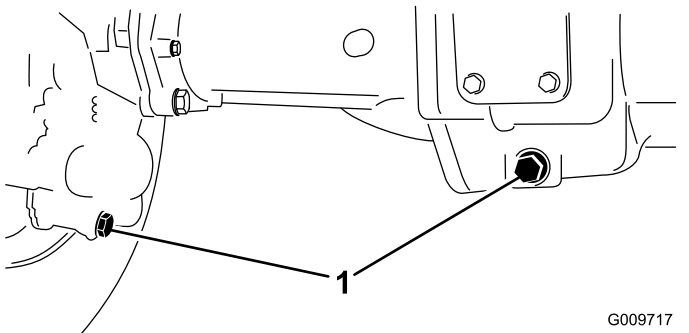

Figure 85
2. Clean the area around the 3 drain plugs—1 on each end and 1 in the center (Figure 85).